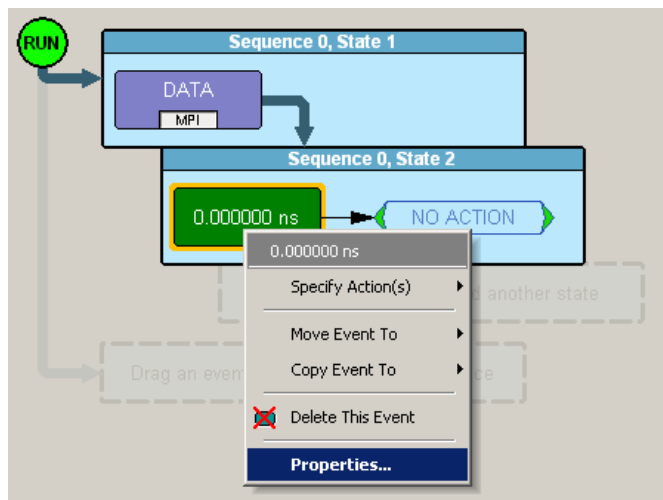

Figure 7.34 Example 5: Bringing Up the Timer Dialog Box
Step 8 Right-click the **Timer** event to open its Properties dialog box (Figure 7.34).